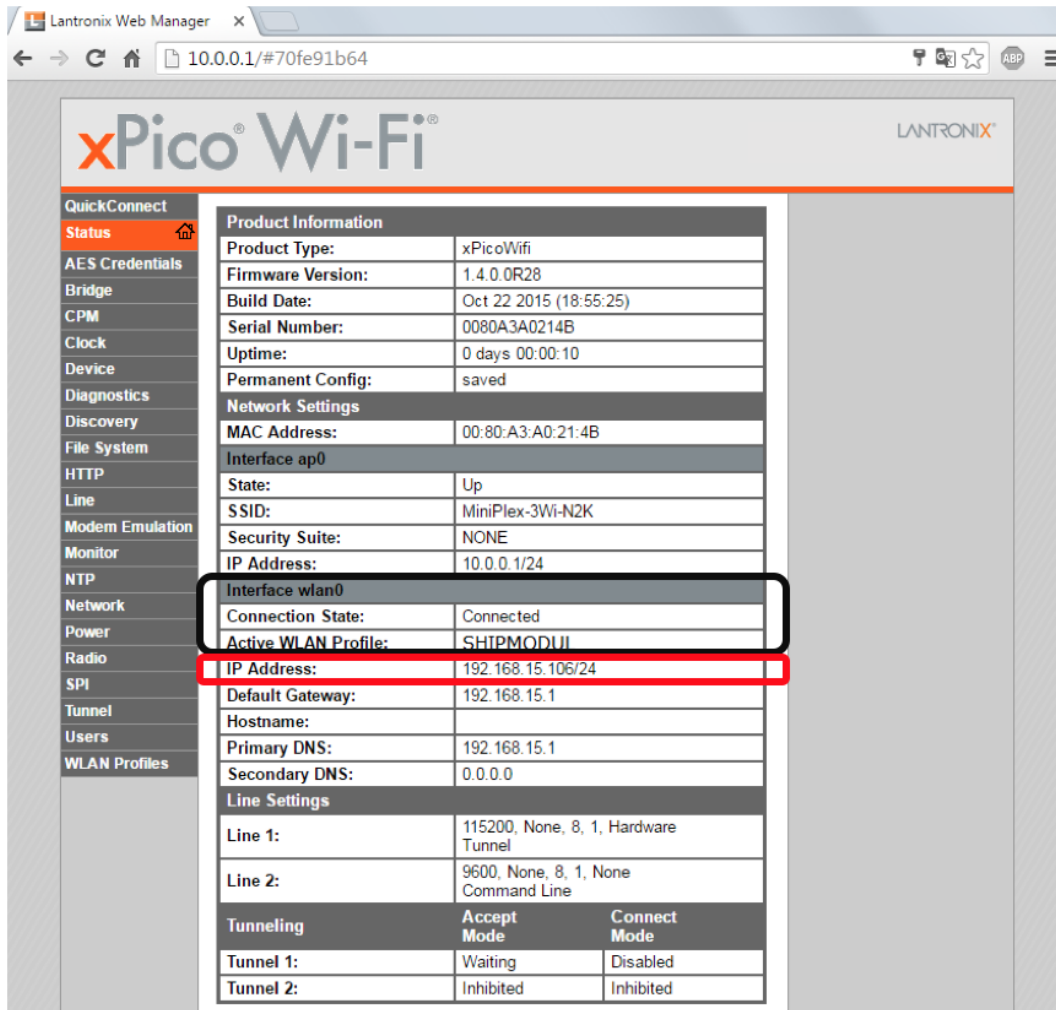

Figure 32
- Check that the WLAN interface is connected (black outline in Figure 32)
- You can see the new IP address of the MiniPlex-3Wi in the red outline in Figure 32. This is the address you need to enter in your navigation app to connect to the MiniPlex-3Wi. At this point, you can only connect to this IP address using TCP. The UDP server is still linked to the access point (ap0) interface of the MiniPlex-3Wi and cannot be active on both the access point and the client interface (wlan0) at the same time. If you need UDP to work while the MiniPlex-3Wi is connected to your access point, another setting needs to be changed. To do this, write down the IP address including the number after the slash ("/"). Then Click on **Tunnel** in the menu to go to the **Tunnel 1 Status** page (Figure 33).